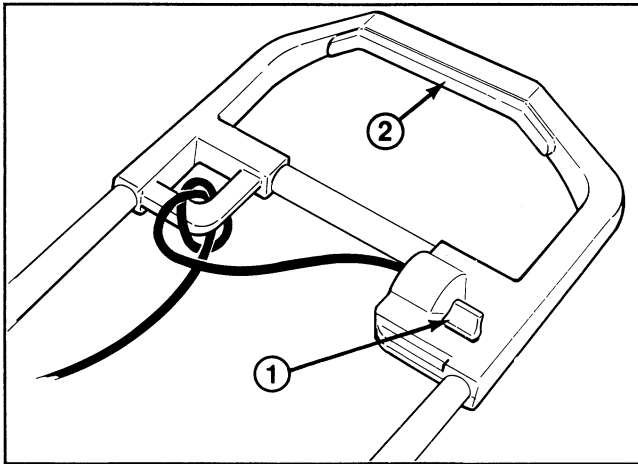

Figure 5
2. Before connecting the extension cord to the snowthrower, tie the extension cord to the loop in the handle as shown in Figure 5. This helps prevent cord separation during operation.
To start rotor, squeeze the control bar. To stop rotor, release the control bar (Fig. 5).